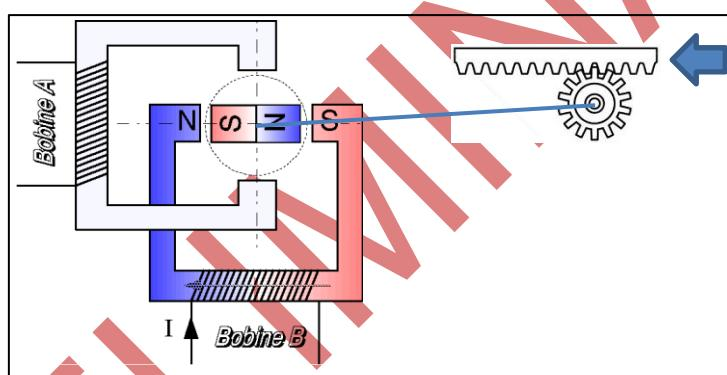

Figure 5-4 Back EMF is measured in the actuator windings
- 1) Back-EMF principle (see Figure 5-4). The back electromotive force is the voltage that occurs in electric motors where there is relative motion between the stator (fixed part with the coil windings) and the magnetic field from the rotor (moving part with the permanent magnet). This principle, which works with a software algorithm based on voltage and current measurements, has some limitations especially at very low speeds. So it cannot be considered as a 100% guaranteed detection.